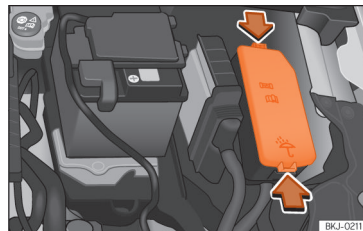

Fig. 50 In the engine compartment: fuse box cover.
- Press the locking tabs to release the fuse box cover »» Fig. 50.